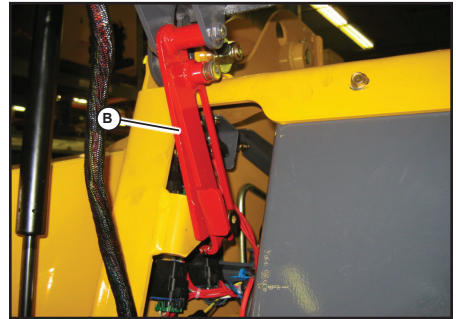

Fig. 32 - ROPS/FOPS lock shown engaged
5. Lift ROPS/FOPS up and tilt it back until the self-actuating lock mechanism engages. The lock mechanism locks the ROPS/FOPS in a rolled-back position (B, Fig. 32).